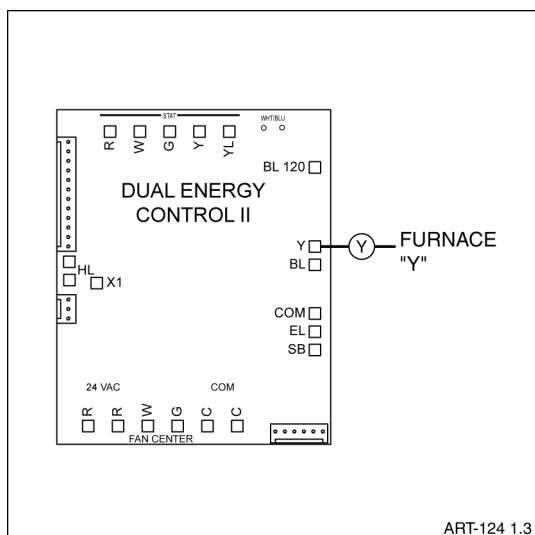

Figure 12
**Furnace variable speed blower** – (Figure 12) a fifth wire connection will be needed to speed up the gas furnace blower for air conditioning and HeatChoice electric heating operation. Add the fifth wire to the gas furnace “Y” terminal as shown on the diagram.